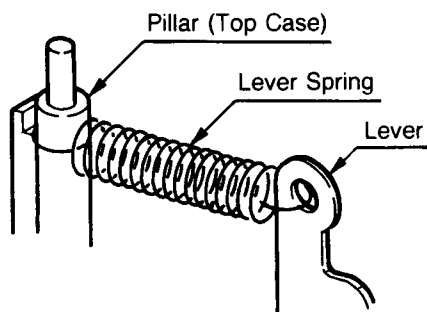

Figure 2-6. Lever Spring Removal
- (1) Turn over the Top Case assembly and remove two Lever Springs on both sides. (Figure 2-6)